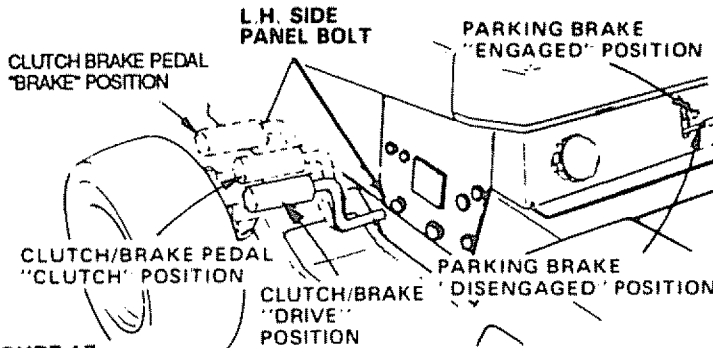

FIGURE 17
- Connect the other end of the cable to the L.H. side panel bolt (Fig. 17) NOTE. KEEP AWAY FROM GAS TANK AND BATTERY
1. L.H. Side Panel Bolt (Fig. 17)